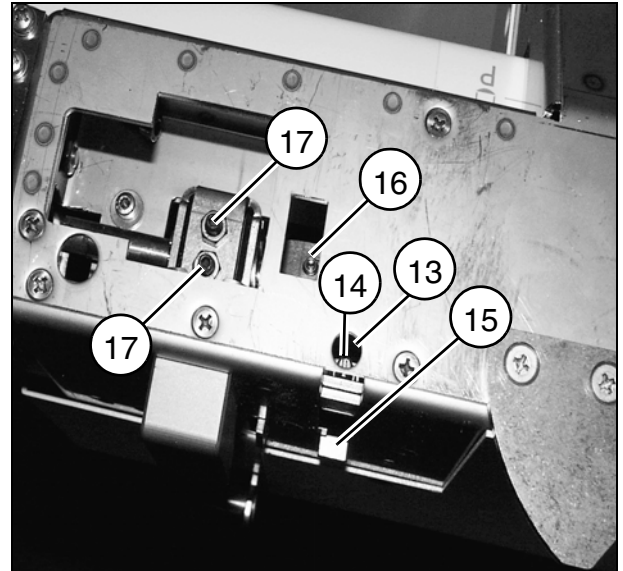

Fig. 33
- Loosen the lock nut (13/Fig. 33).
- Rotate the threaded nut (14/Fig. 33) to adjust the cam (15/Fig. 33) so that the switch is rotated. Upward movement of the SIREMOBIL Iso-C is blocked.
- Tighten the lock nut (13/Fig. 33).
- loosen the set screw (16/Fig. 33).
- tighten the set screw (16/Fig. 33).
Turn in the screws (see page 4-27 (17/Fig. 33)) on both clamping hooks symmetrically until the correct clamping force is reached. Then lock the screws again.